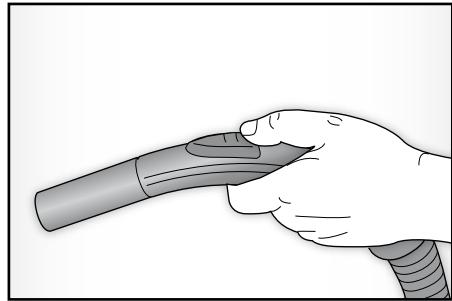

Fig. 5
The secondary air valve (O) is located on the handgrip and it is used to adjust suction power (FIG. 5).